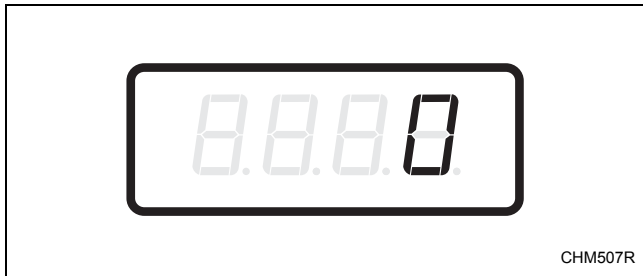

Figure 8
2. When “SA11” appears in the display, press the START (enter) keypad. There are five digits in the Special Vend A Heat Price. The fifth digit will appear in the display and will flash one second on and one second off. Refer to *Figure 8*.